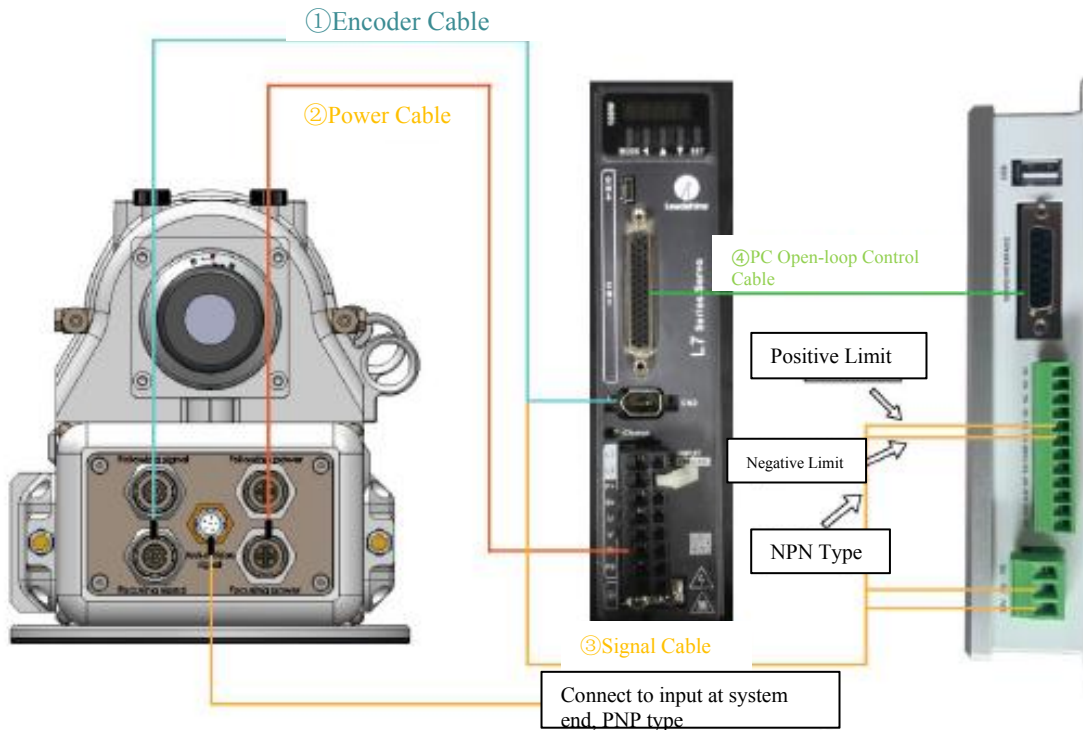

Figure 1.9
① Focusing axis wiring, as shown in Figure 1.9.